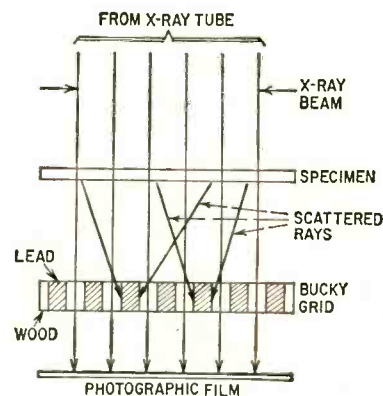

Fig. 6—Scattered x-rays are absorbed by lead strips of Bucky grid. Straight-line radiation passes through wood strips to photographic film.
**Bucky grid:** An assembly of alternate strips of lead and wood used in conjunction with X-ray equipment. The Bucky grid is placed between the specimen to be examined and the photographic film (Fig. 6). In passing through the specimen, some of the X-rays are scattered and emerge at various angles. These scattered rays tend to fog the film and to reduce the contrast. The Bucky grid prevents scattered rays from reaching the film.
As indicated in Fig. 6, the scattered rays strike the sides of the lead strips and are absorbed. Straight-line radiation reaches the film by passing through the wood between the lead strips. The Bucky grid is moved about during the exposure time to prevent X-ray shadows of the lead strips from appearing on the film.